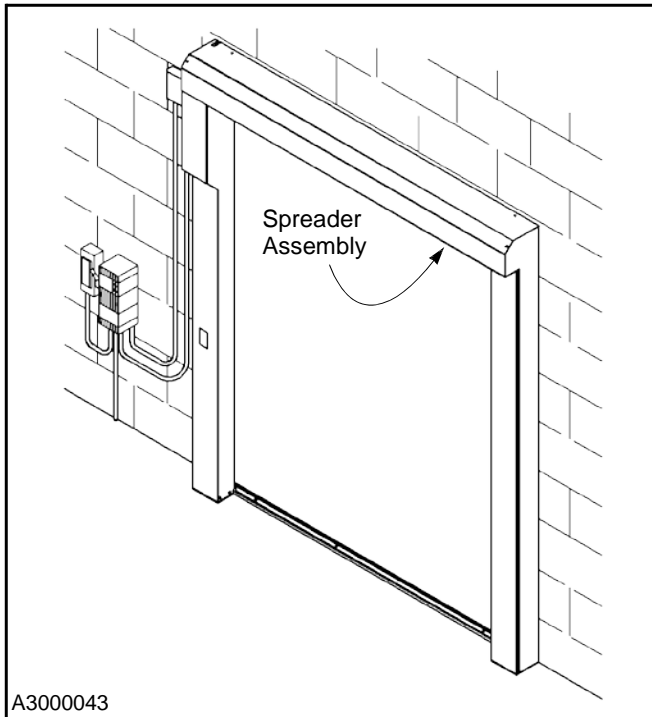

Figure 15
1. Position the spreader assembly between the side columns. (See Figure 15.)